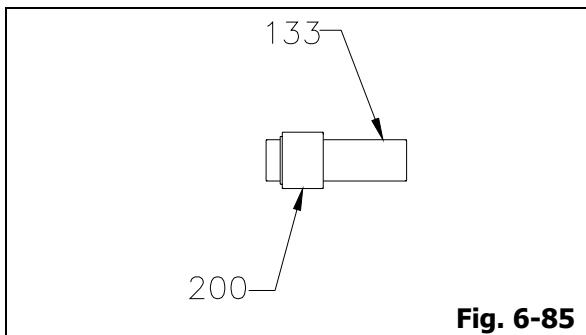

Fig. 6-85
- For mechanical seal (200) furnish with jam nuts, where abutment ring (463) is not available, coat shaft sleeve (133) surface with oil, slide the rotary portion of mechanical seal (200) carefully onto shaft sleeve (133) by hand until the end of the mechanical seal (200) reach the mechanical seal location marking which has been made on shaft sleeve (133) during disassembly, and screw in mechanical seal jam nuts (Fig. 6-85).